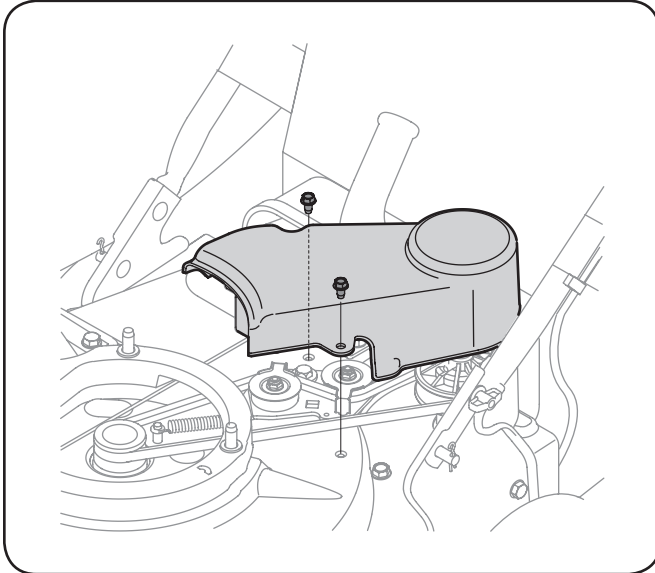

Figure 6-2
4. Remove the three self tapping screws securing the belt cover, and remove belt cover. See Figure 6-2.